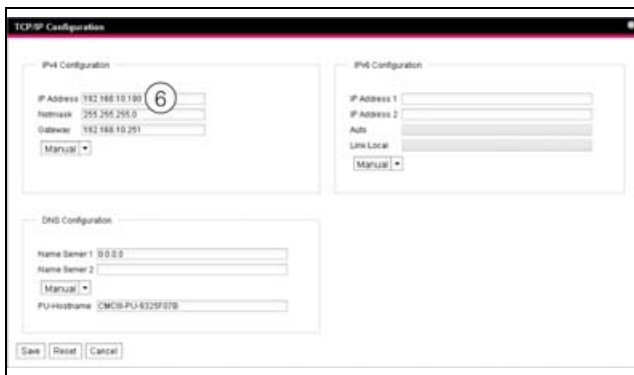

Fig. 56: Adjusting the TCP/IP settings
- In the TCP/IP Configuration window, change the device's IP address in the IPv4 Configuration group box to an address permitted in the network (fig. 56, item 6).